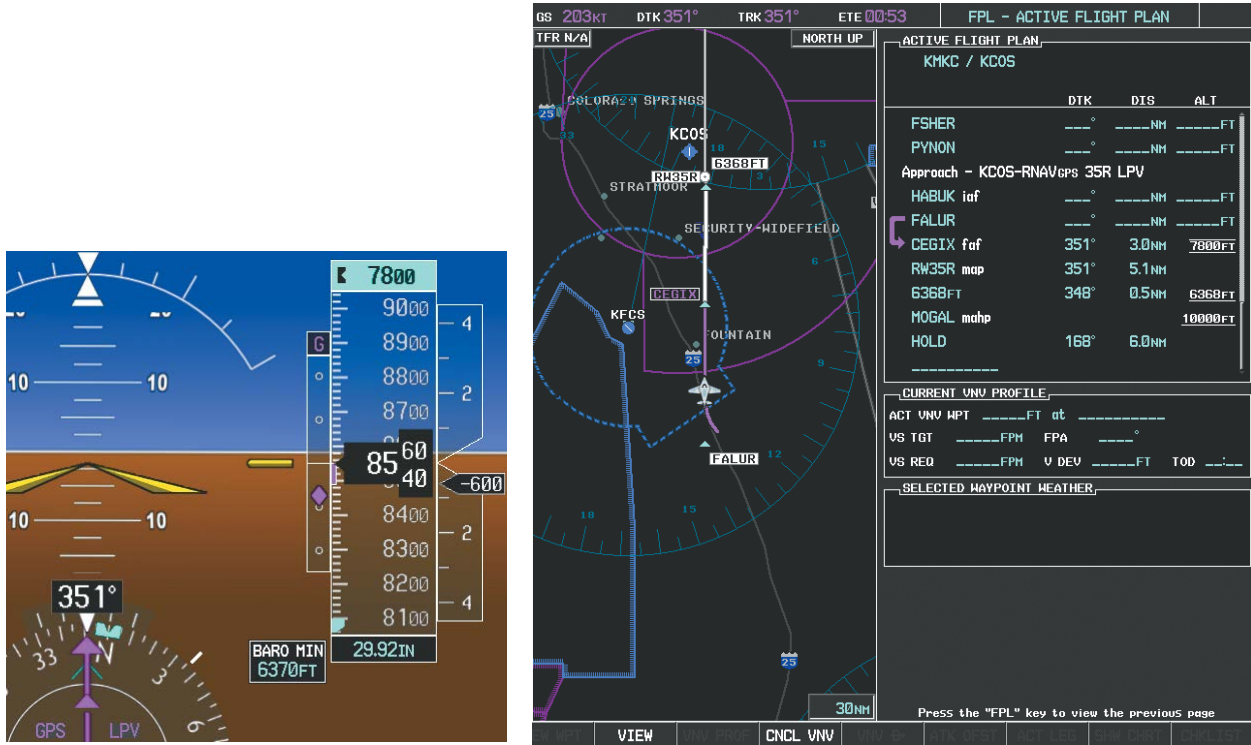

Figure 5-150 Descending to the FAF
- 23) After crossing FALUR the next waypoint is the FAF. The flight phase changes to LPV on the HSI indicating the current phase of flight is in Approach Mode and the approach service level is LPV. CDI scaling changes accordingly and is used much like a localizer when flying an ILS approach. The RVSI is no longer displayed and the VDI changes to the Glidepath Indicator (as shown in Figure 5-150) when the final approach course becomes active.
The descent continues through the FAF (CEGIX) using the Glidepath Indicator, as one would use a glideslope indicator, to obtain an altitude "AT" 7,800 feet at the FAF. Note the altitude restriction lines over and under (At) the altitude in the 'ALT' field in Figure 5-150.